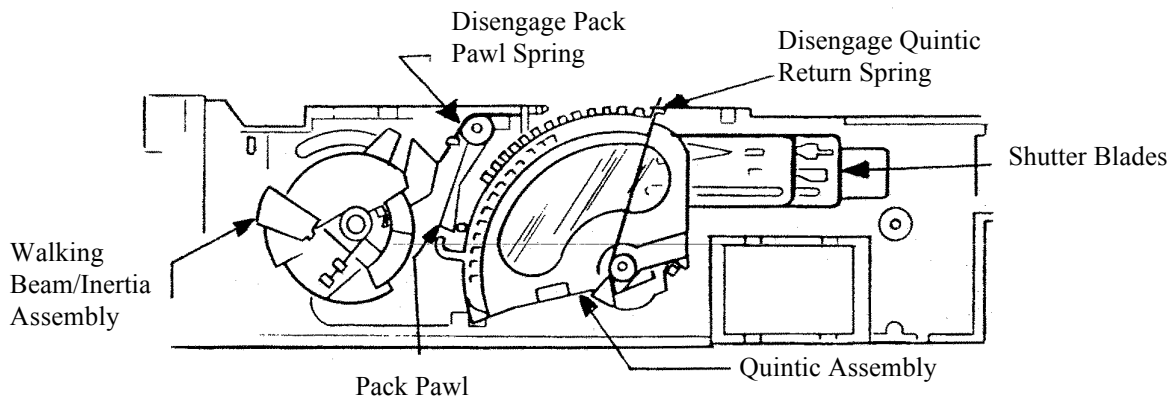

Figure 4-19a Removing Shutter Components
- a. Using tweezers, unhook the upper end of the Quintic Return Spring. Remove the Quintic Assembly (consisting of Counterweight, Return Spring, Frame and Lens) from the baseblock. See Figure 4-19a.
- b. Using tweezers, unhook the upper end of the Catch Pawl Spring and remove the Catch Pawl from the baseblock. See Figure 4-19a.
- c. Remove the Walking Beam/Inertia Assembly (which consists of the Kick Spring, Inertia, Inertia Spring, and Walking Beam) from the shutter baseblock. See Figure 4-19a.
- d. Wearing finger cots or gloves, remove the three shutter blades from the baseblock, Figure 4-19a. If the blades are to be re-used, exercise care to prevent scratching or getting body oil on the blades. Also note that the three blades must be re-installed as a set. Replacement blades are available as a three-part set. Do not intermix blades from one set to another.